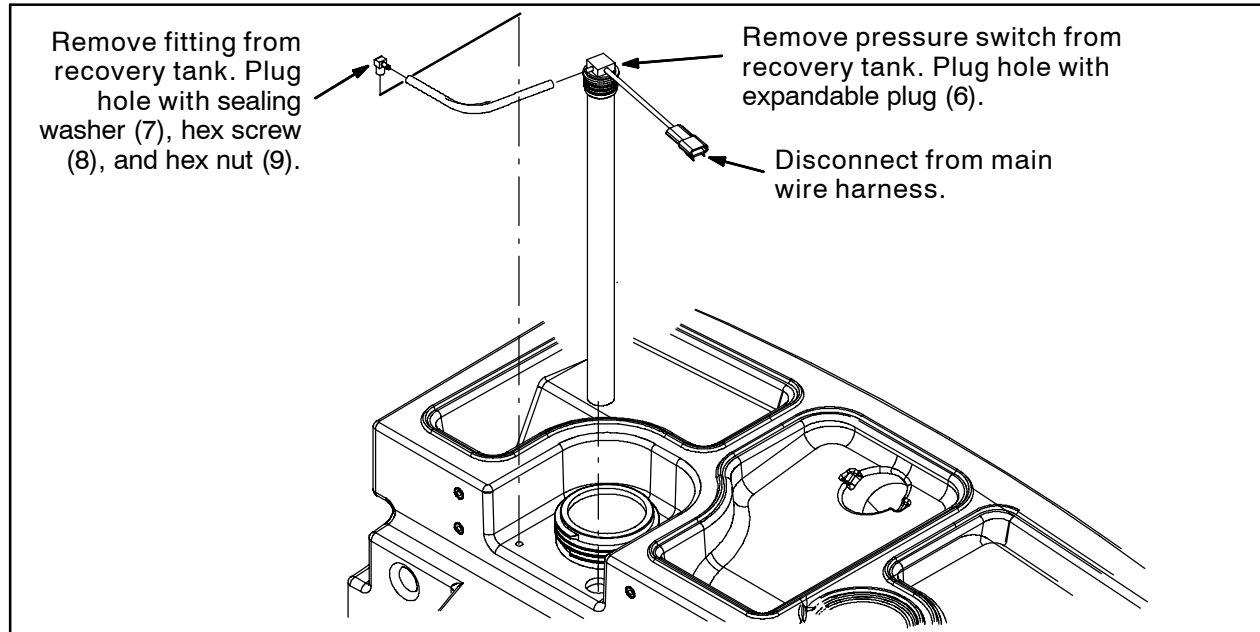

FIG. 1
1. Disconnect the main wire harness from pressure switch. Refer to Fig. 1.
2. Remove the pressure switch and brass fitting from the recovery tank. Discard the pressure switch and fitting. Refer to Fig. 1.
3. Use the expandable plug (6) to plug the hole where the pressure switch was previously located and the sealing washer (7), hex screw (8), and hex nut (9) to plug the hole where the fitting was previously located. Refer to Fig. 1.